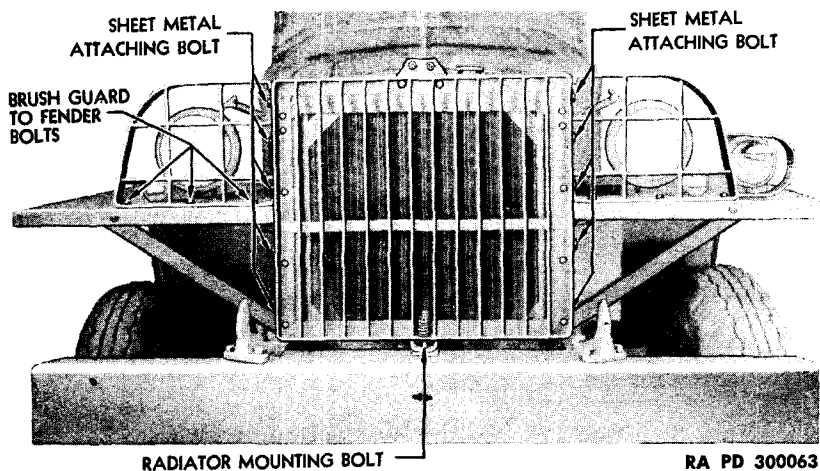

Figure 52—Radiator Mounting
(1) **REMOVE BRUSH GUARD TO SIDE PANEL BOLTS.** Remove 12 bolts, nuts, and lock washers (six on each side) which attach outer vertical bar of brush guard to side panel (fig. 52).
brush guard at front cross member (fig. 52). Do not lose insulating spacer between brush guard and cross member.
(6) **REMOVE RADIATOR AND BRUSH GUARD ASSEMBLY FROM VEHICLE** (fig. 52).
(7) **REMOVE BOLTS.** Remove six brush guard to fender bolts, nuts, and lock washers (three on each side) (fig. 52).
(8) **REMOVE BRUSH GUARD FROM RADIATOR.** Remove eight bolts, nuts, and lock washers which attach brush guard side supports to radiator core flanges. Remove radiator assembly (fig. 52).